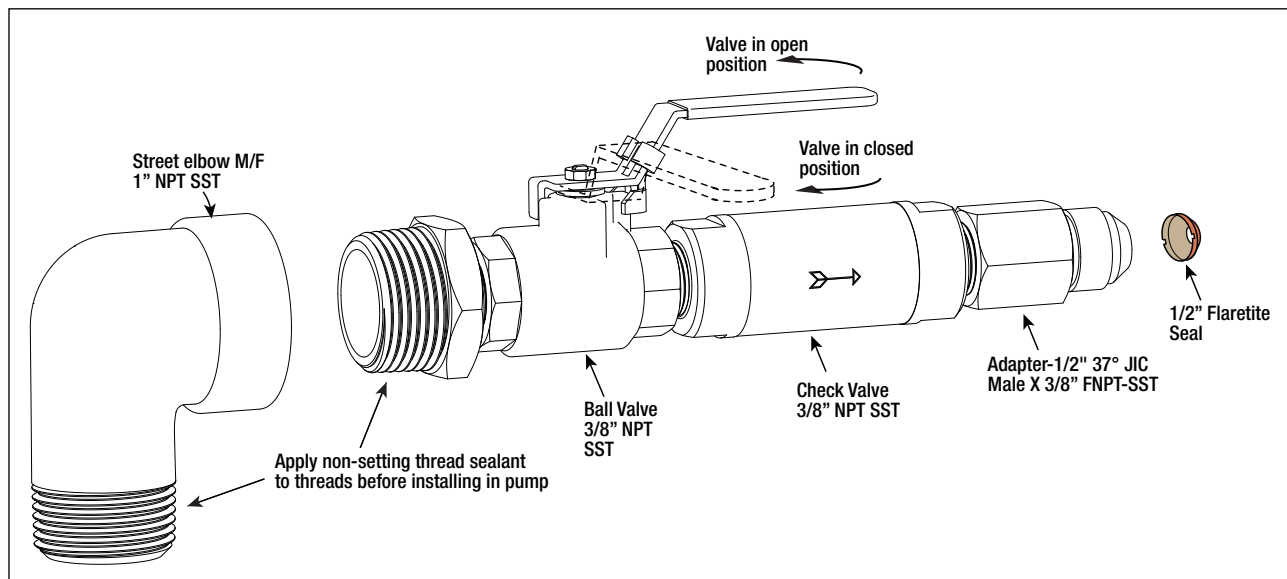

Figure 16. Maxxum Siphon Port Assembly
3. Apply a coat of fresh, UL classified for petroleum, non-setting thread sealant to the male threads of the street elbow and valve assembly included in the 330020-920: Kit - Maxxum Siphon Port Adapter Assembly (see Figure 16).